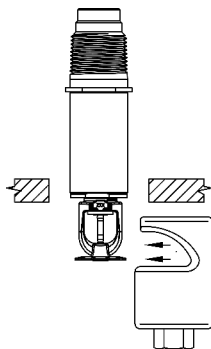

Fig. 5: Applying the sprinkler socket
3. ➔ Slide the socket carefully sideways over the sprinkler (Fig. 5).